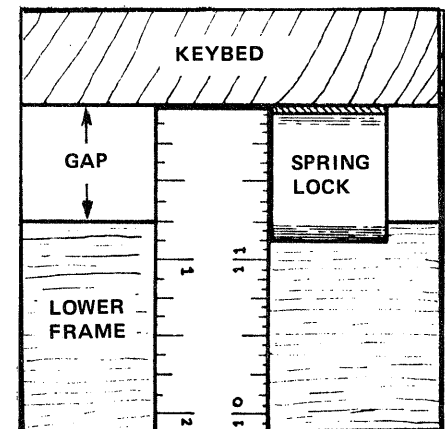

FIGURE 8-4 Measure the gap next to the Spring Lock.
Measure the gap between the Lower Frame and the Keybed next to the Spring Lock as shown in FIGURE 8-4, then write the measurement on Line (1) under this Step on the Check List.